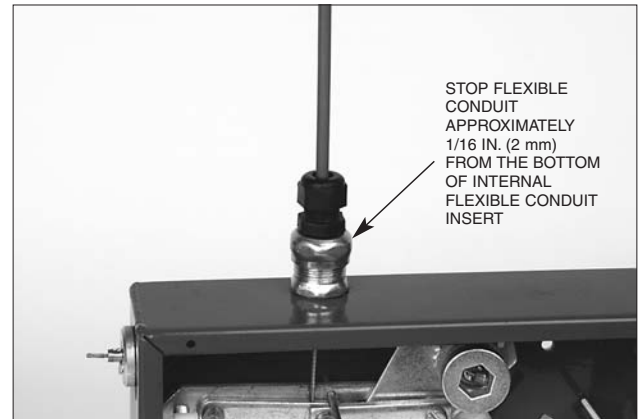

Figure 4-46.
9. Slide the flexible conduit into the strain relief until it is approximately 1/16 in. (2 mm) from the bottom of the flexible conduit insert. See **Figure 4-46**.